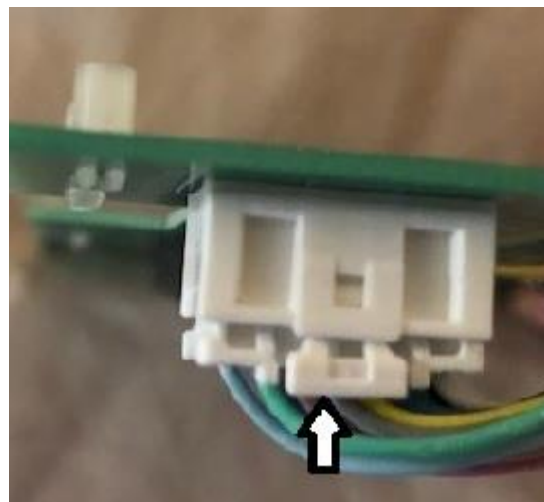

Figure 229
7. Once the screen is separated from the board, the harness can be removed by pushing the tab on the side of the connector and pulling the connector straight out of the circuit board. Figure 229